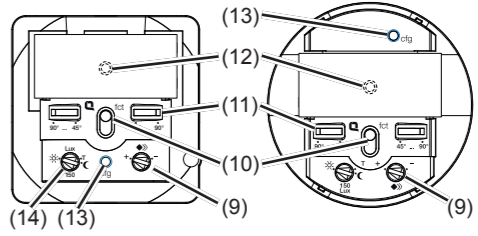

Fig. 5: Operating and adjustment elements of the bottom part of the application module
The detection angle can be restricted for the right side and for the left side via each adjuster (Fig. 5, 10) between 45° ... 90°. Thus the detection angle can be between 90° and 180° (Fig. 8).
- Setting the test mode. To do so, set the response brightness potentiometer (Fig. 5, 13) to the T position.